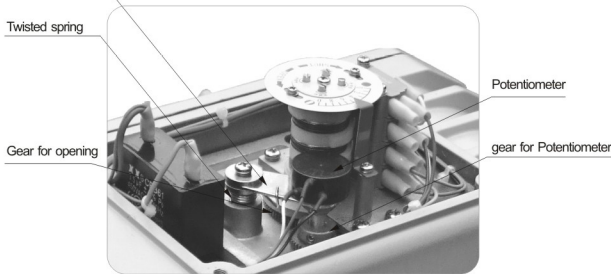

Fig. 9
6、 Adjustment of Potentiometer (Fig 9, 10)